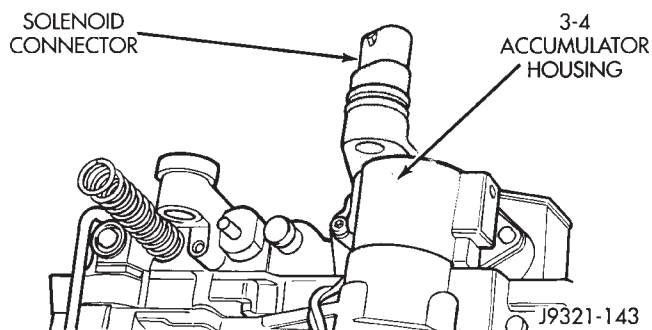

Fig. 99 Solenoid Connector Position—46RH
(12) Remove solenoid connector from 3-4 accumulator housing (Fig. 99). **Note that connector is attached to housing with shoulder-type screw. Keep this screw with accumulator housing to avoid losing it.**